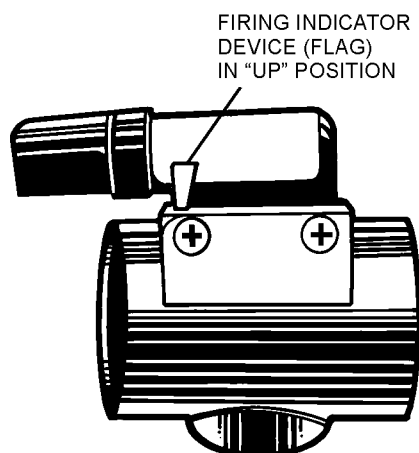

Figure 7-2. Firing Indicator Device In Up Position
4. Inspect the firing indicator device on the Cartridge Actuated Cutter to insure that the unit has not been actuated. Orient the device as shown in figure 7-2. The red flag is contained in a slot below the serial number and behind the one-way screw on the left. The red flag should be in the down position or stowed within the confines of the slot. If the red flag is in the up position, as shown in figure 7-2, device has been actuated and cannot be installed. If the red flag is up, initiate a QDR and return the unit to:
1. If the red firing indicator flag is in the up position, as shown in figure 7-2.